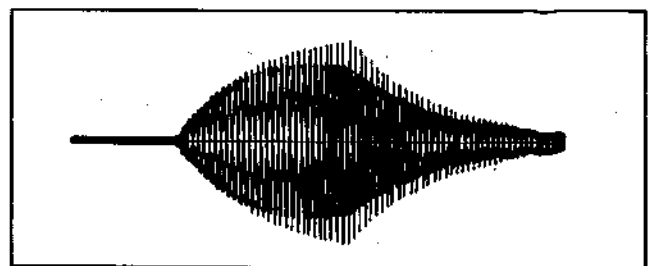

Fig. 4-4-3. HID discriminator frequency adjustment
- (1) Supply the VTR with the colour bar signal and set up the E-E mode.
- (2) Connect the oscilloscope to pin 11 of IC7.
- (3) Adjust LV4 so that the waveform is as shown in Fig. 4-4-3.